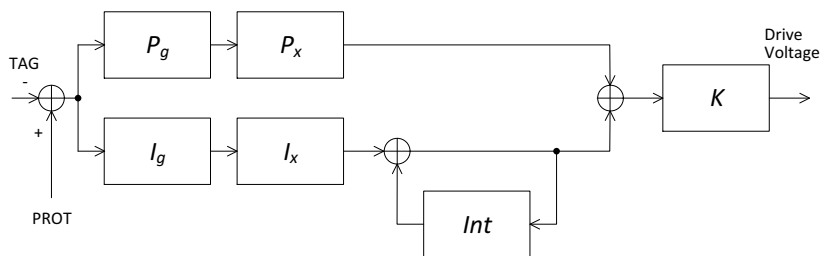

Figure 18. PI Speed Controller Block Diagram
Closed-loop motor rotation speed controller (PI) is provided. The block diagram is shown in Figure 18.